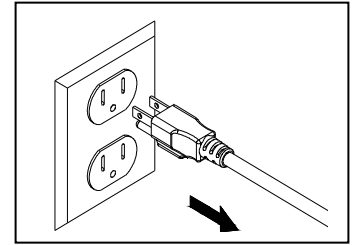

Fig. 4
1. Unplug the power cord, and then carefully remove the Pond Boss™ assembly from the pond. Fig. 4